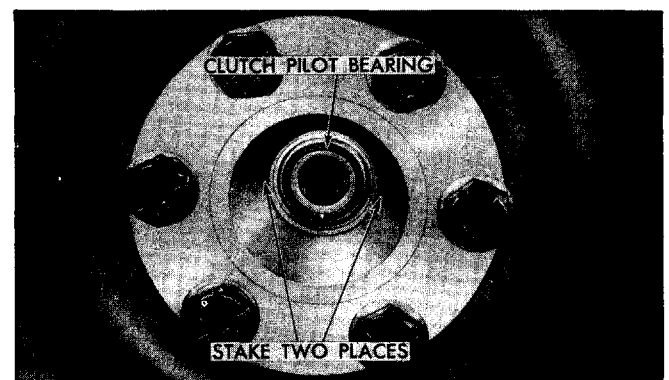

Fig. 6-31 Staking to Retain Clutch Pilot Bearing
3. If clutch pilot bearing is to be replaced, use cold chisel to remove staking in end of crankshaft which keeps bearing in place when transmission is removed (Fig. 6-31). Remove clutch pilot bearing from hole in crankshaft.
If bearing is a snug fit in crankshaft, use puller J-4383 and Slide Hammer J-2619-A or J-942 to remove bearing. When installing new bearing see that hole in crankshaft is thoroughly clean. Install new bearing with shielded side toward transmission. Start bearing into hole and tap into place by using Clutch Pilot Bearing Installer J-5736 against outer race. Stake slightly as shown in Fig. 6-31, to keep bearing in place in case transmission is removed in the future.